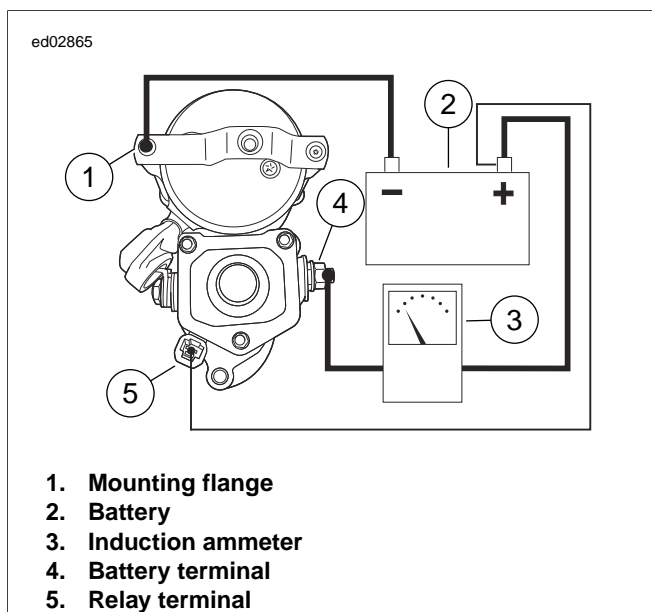

Figure 1-7. Free Running Current Draw Test
2. See Figure 1-7. Attach one heavy jumper cable (6 gauge minimum).
- a. Connect one end to the starter mounting flange (1).
- b. Connect the other end to the negative (-) terminal of a fully charged battery (2).
- a. Connect one end to the positive (+) terminal of the battery (2).
- b. Connect the other end to the battery terminal (4) on the starter solenoid. Place an induction ammeter (3) over cable.
- b. Connect the other end to the solenoid relay terminal (5).